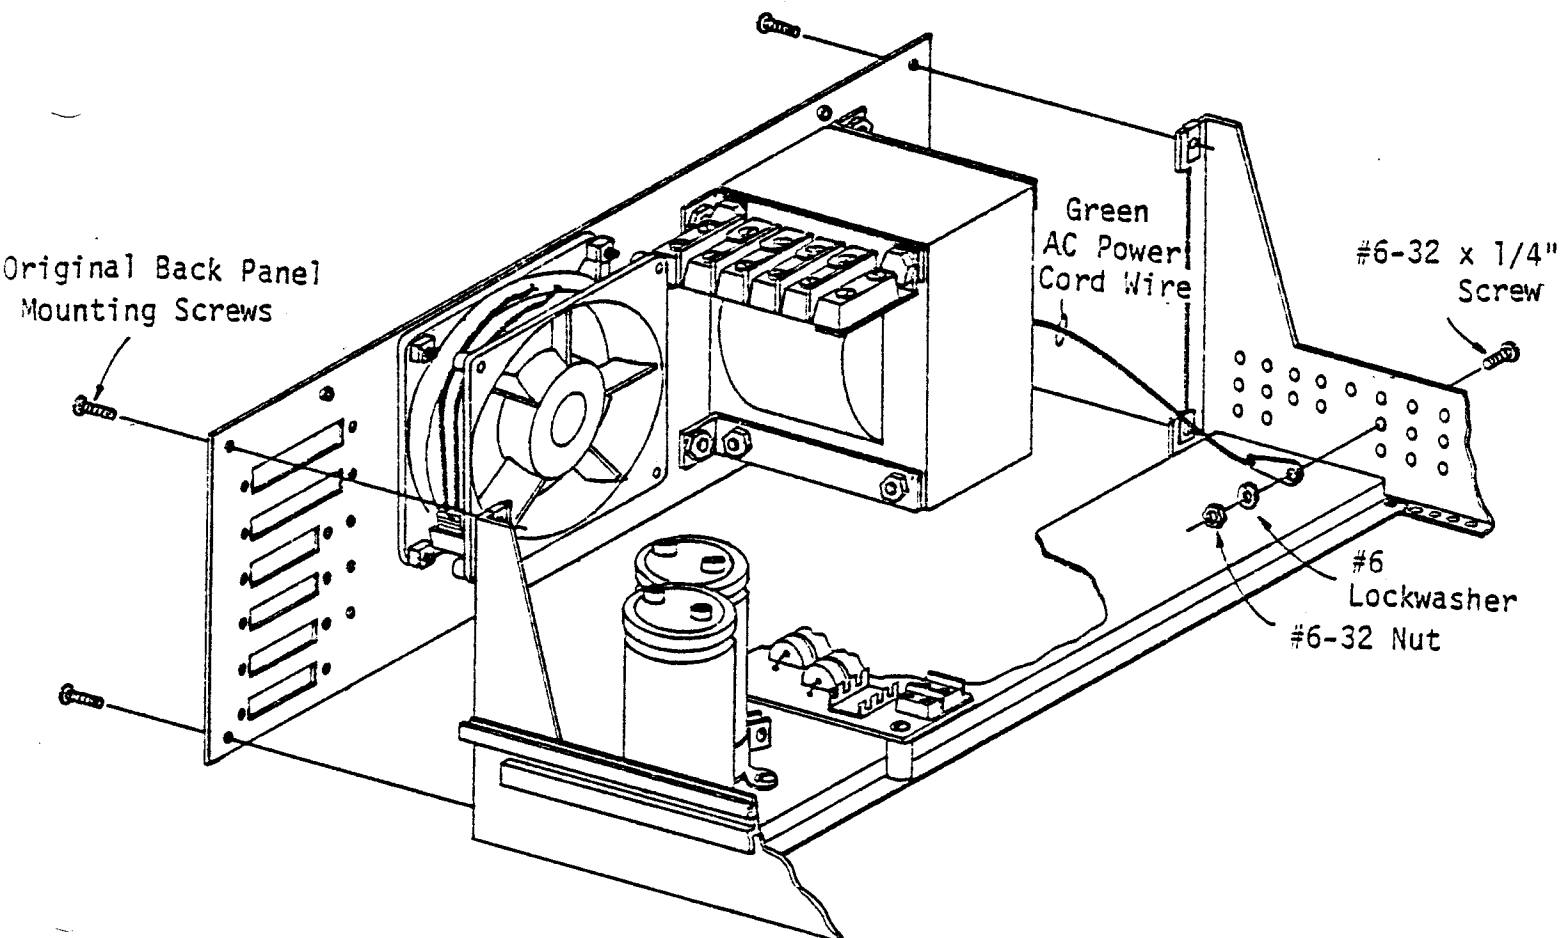

Figure 5-60. Back Panel Mounting
(Figure 5-60)
1. Mount the back panel to the mainframe as shown in Figure 5-60 using the original back panel mounting screws. (Tighten these screws down until they are just firm.)